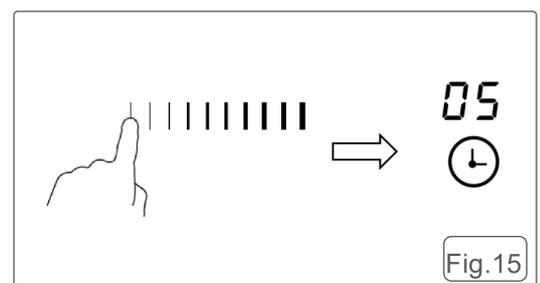

Fig.15
- Set the desired time by touching the slider control of the timer (for example, 5 minutes). Fig.15